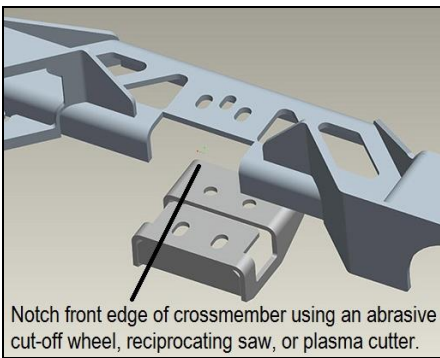

Figure 1
2. Cut a notch as wide as the 12628HKR bracket into the front of the 12625HKR crossmember. Place the notch in the center of the crossmember and cut it back 1-1/8" from the face of the crossbeam front flange (**Figure 1**).